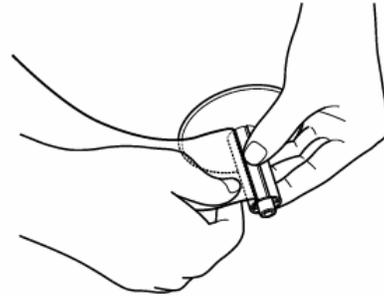

Fig.4
6. Insert the end into the slot in the take-up reel and wind two or three turns of paper around the reel (See Fig. 4).